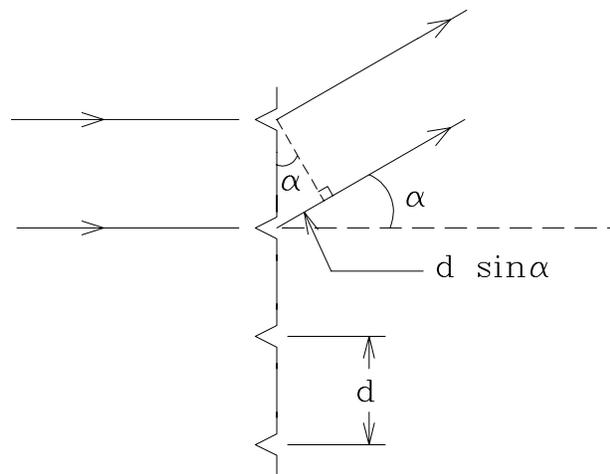

Figure 5.4: Diffraction by a grating
1. If the incident light beam is a parallel beam and is incident at a right angle to the grating, a diffracted beam will be offset from its parallel neighbour by a distance $d \sin \alpha$, as shown in Figure 5.4.